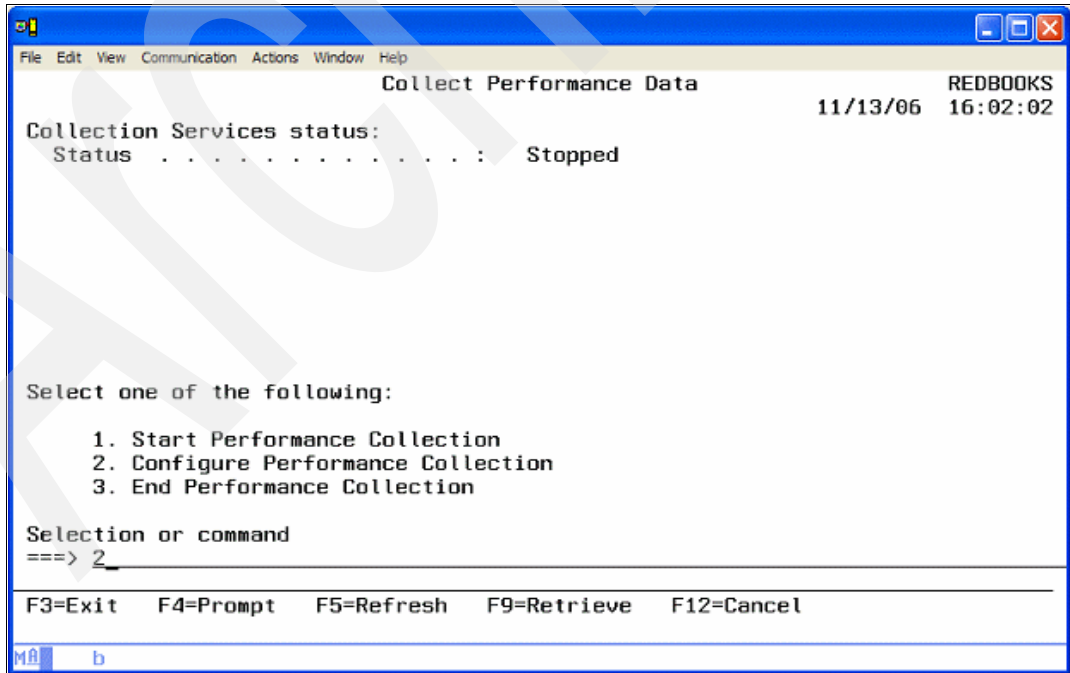

Figure A-3 Collect Performance Data options
3. Set the desired collection attributes. Select **2. Configure Performance Collection**. See Figure A-3.